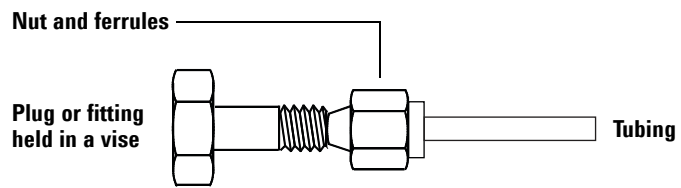

Figure 20 Assembling the fitting
- 3 Push the tubing into the stainless steel plug (Figure 20).